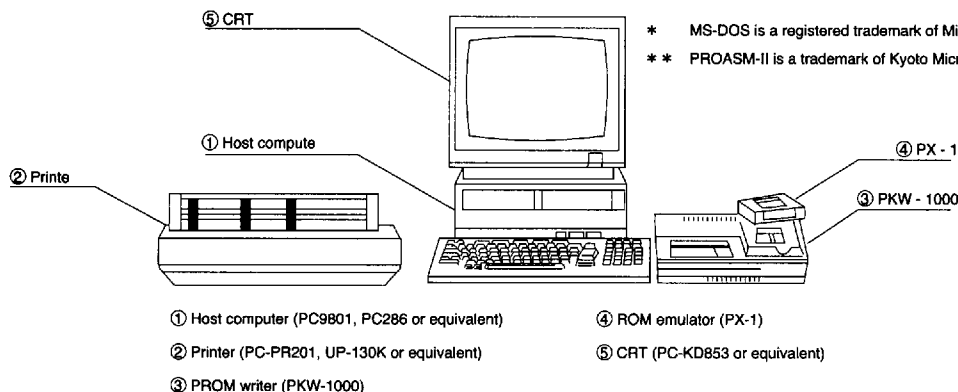

Fig. 18 Personal computer system (RDS-BU2)
The personal computer system requires the ability to run MS-DOS* as the operating system (OS). A sample system configuration is shown for reference in Figure 18.